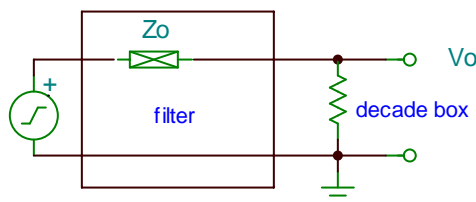

Figure 7. Measurement of Output Impedance
- Set up a high-pass filter using a $1000\ \Omega$ resistor and a $0.1\ \mu\text{F}$ ceramic capacitor. Connect up the waveform generator to the input and look at the output on the oscilloscope. Set the waveform generator to some reasonably low frequency (maybe 100 Hz or so) and measure the output amplitude on the oscilloscope. Next, insert a decade resistor box in parallel with the oscilloscope as shown in Figure 7, and adjust the resistance until the signal magnitude has declined to exactly half the original value. The resistance necessary to cut the signal in half is output impedance. Repeat this at a couple other frequencies above and below the cutoff frequency of the filter.